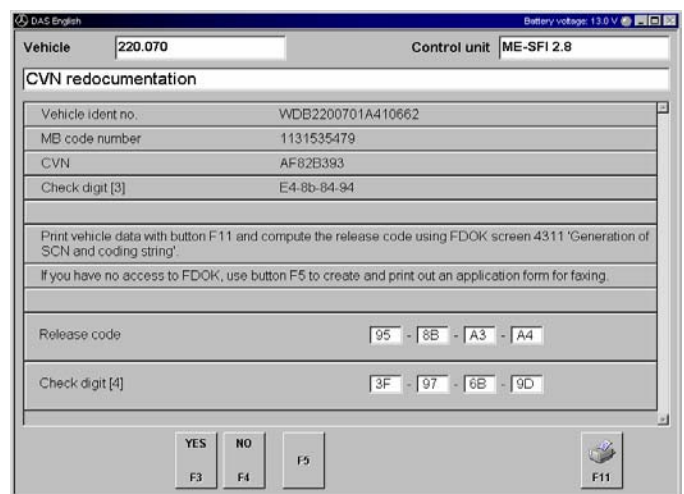

Figure 11
5. Enter the Release Code and Check Digit [4] into the respective areas on the SDS Screen, Press 'F3' to complete the redocumentation. (Figure 11)